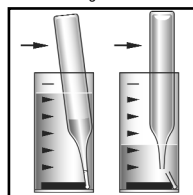

Figure 2
2. Place the Vacu-vial ampoule, tip first, into the sample cup. Snap the tip. The ampoule will fill leaving a bubble for mixing (fig 2).